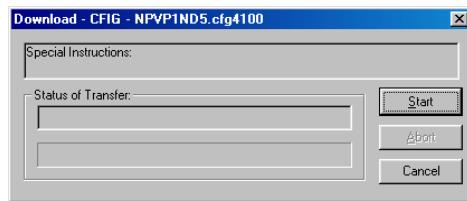

Figure 14-6. Download Start Dialog
7. Click the Download button. The dialog shown in Figure 14-6 appears.